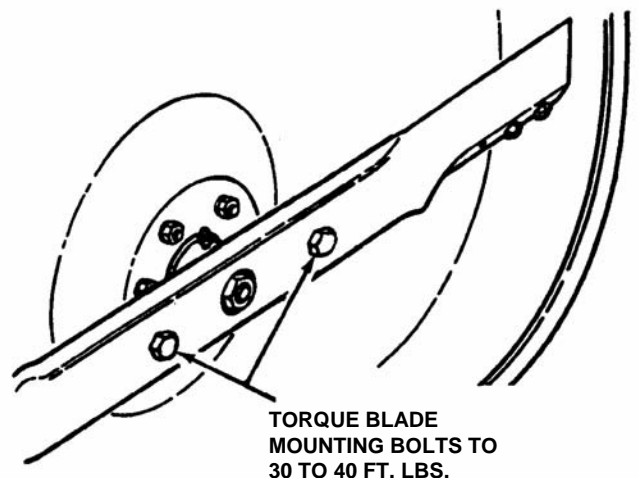

FIGURE 3.2
4. Check torque of blade mounting bolts. As necessary, torque to 30 to 40 ft. lbs. See Figure 3.2.